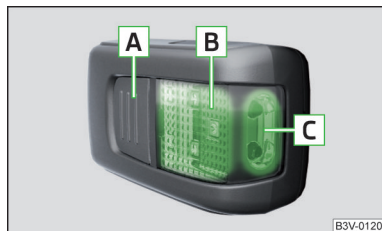

Fig. 123
Description of the light » Fig. 123
- **To switch on** the removed light, press button **A** » Fig. 123. Pressing the light again will **switched it off**.
If the light is not switched off and is correctly inserted in the mount, the LED diodes in the front part of the light **C** » Fig. 123 are automatically switched off.